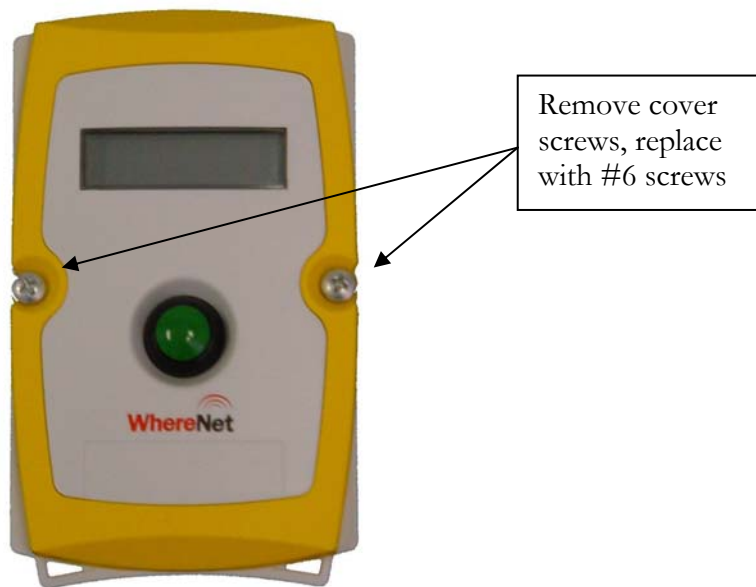

Figure 5: Cover screws
5. Remove front cover screws as shown in Figure 5.
1. Remove front panel screws as shown in Figure 5. Insert #6 threaded screws provided with bracket through holes in front panel of WhereCall III.